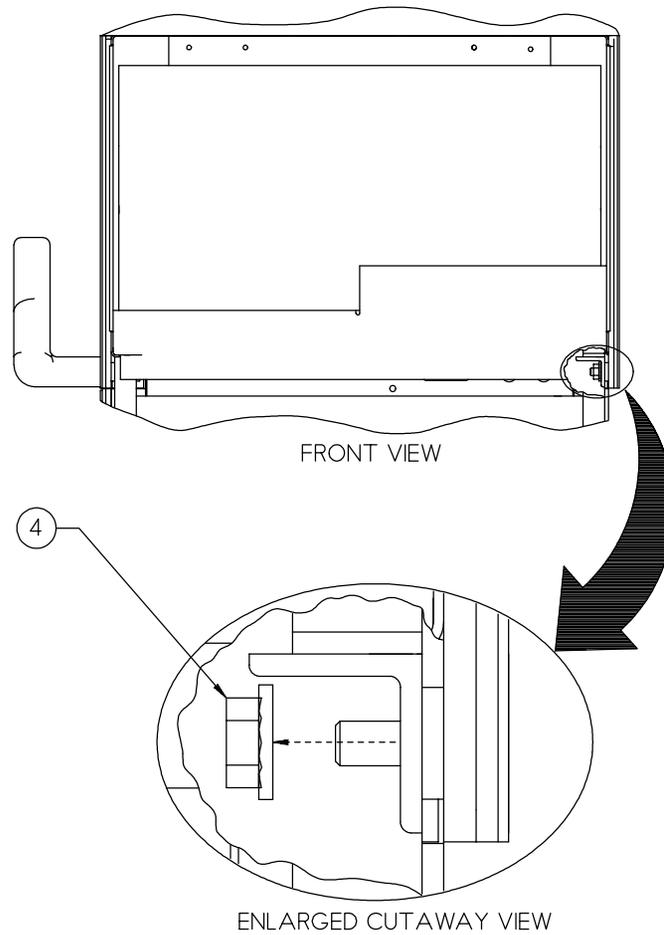

Figure 20
- 4. On the inside of the Workstation, locate the hex nut attached to the flat-head hex screw (the screw's end extends through the upper-right frame brace). Remove this hex nut (& its washer). See Figure 20.